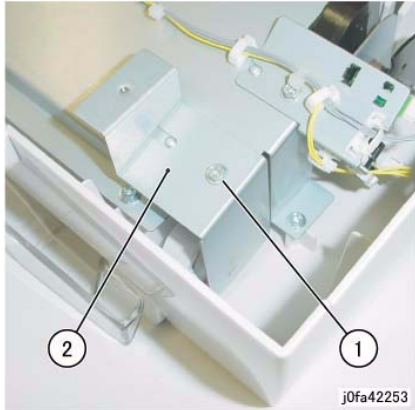

Figure 2 Removing the Front Bracket
7. Remove the front Bracket (Figure 2):